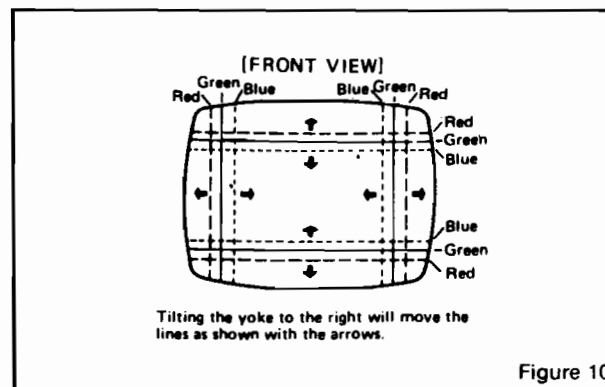

Figure 10
- 1) Tilting the angle of the yoke up and down adjusts the crossover of both vertical and horizontal red and blue lines. See Fig. 10 (a) and (b).